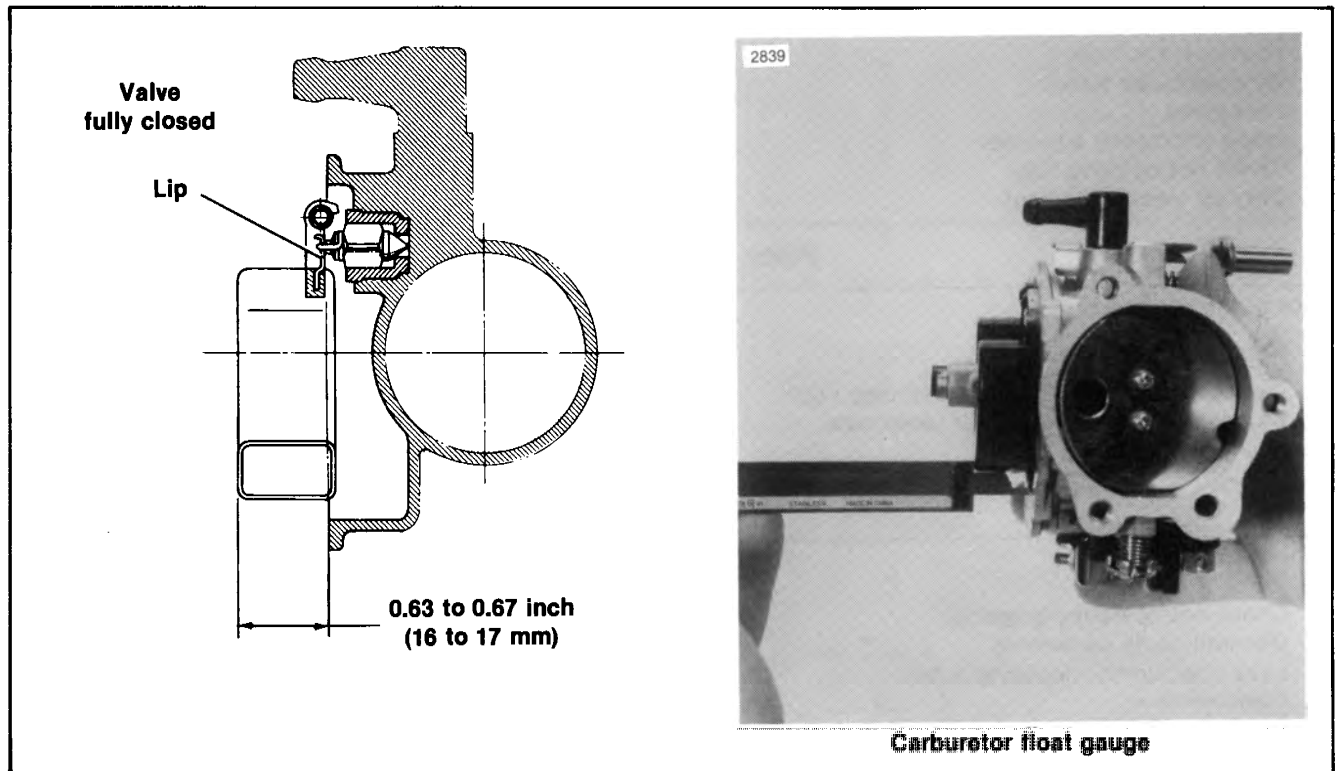

Figure 4-10. Float Adjustment
3. See Figure 4-10. Hold carburetor on its side so that the float will be suspended, from the float pin, in a vertical position. Use a dial caliper and measure the distance from the face of the bowl mounting flange to the bottom surface of the float. If the measurement is not within the specified limits, bend the metal valve actuator lip, up or down, a slight amount, to give the correct setting.